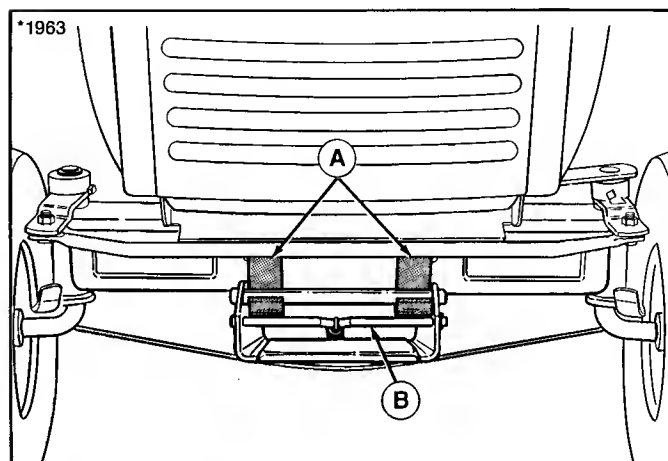

Figure 17.
4. Remove mower from tractor hitch brackets (A, figure 17) by pulling spring-loaded lever (B) forward and lifting up on hitch. Place mower hitch on ground.